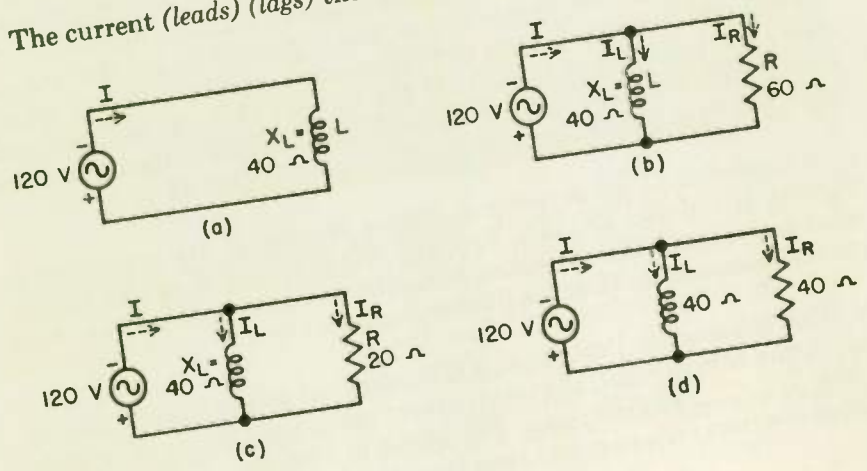

Fig. 20
1. For each of the circuits in Fig. 20 draw a phasor diagram and find the total current I .
2. For each of the circuits in Fig. 20 state whether the angle between the current I and the applied voltage E is less than 45° , equal to 45° , more than 45° but less than 90° , or equal to 90° .
3. The current (*leads*) (*lags*) the voltage in all circuits of Fig. 20.
4. Study Figs. 20 and 21 to determine how the phase angle between total current and voltage in a parallel circuit is affected by the relative value of current through the reactive and resistive legs of the circuit. When the currents through the reactance and the resistance are equal, the phase angle is (a) _____ degrees. When there is only reactance in the circuit (no resistance), the phase angle is (b) _____ degrees. If the current through the resistance is much greater than the current through the reactance, then the phase angle will be (c) (*much greater than 45°*) (*much less than 45°*). If the current through the resistance is much less than the current through the reactance, then the phase angle will be (d) (*much greater than 45°*) (*much less than 45°*).
1. Find the impedance in each of the four circuits of Fig. 20.